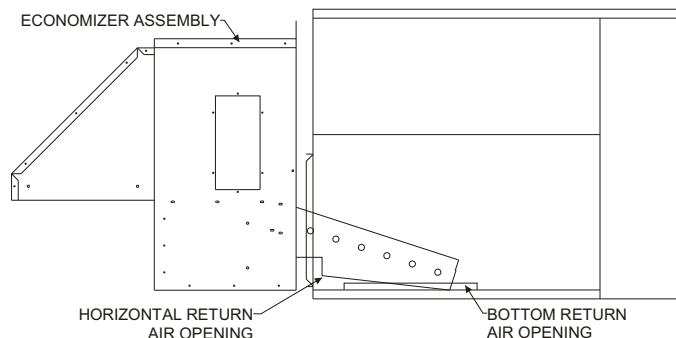

Figure 10: Installing Economizer Unit Assembly
10. Lift and slide the economizer assembly into the horizontal return air opening of the unit. Slide the top of the economizer assembly in the space between the unit top and side so that the top edge fits under the lip of the unit. Make sure return dampers fit into the bottom return opening as shown in Figure 10.